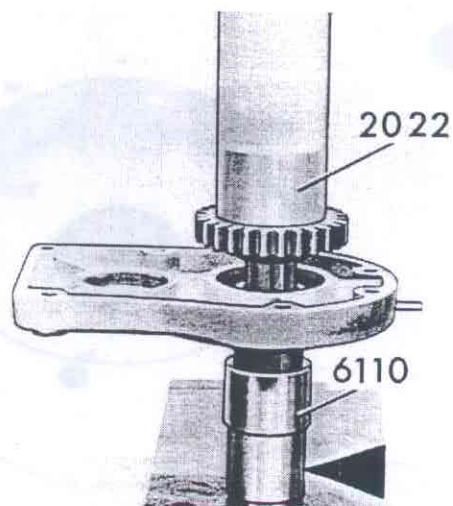

Fig. 48-23. Pressing on the wheel
5. Secure the key for the gear wheel. Place the housing on 6110 and press on the gear wheel with 2022, see Fig. 48-23. Secure the circlip for the gear.